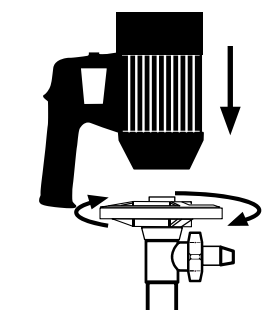

Figure 1
2. Fasten the motor to the pump via the gray hand wheel located on top of the pump tube (See Figure 1).